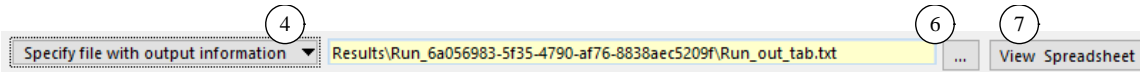

Figure 8. Controls shown for option to specify tabbed text file directly.
The second option arranges the screen to show a larger field for the pathname for a tabbed text file with an adjacent file browser control (6) (Figure 8).
Once the tabbed text file is generated, you can change the drop-down control back to see the full name of the file (Figure 8).